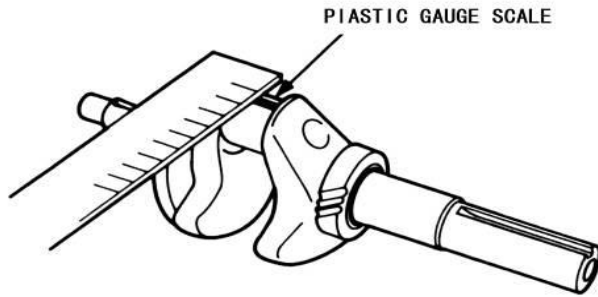

Figure 4-43: Remove Cap and Measure
3. See Figure 4-43. Remove connecting rod cap and measure the Plastigauge® to verify the oil clearance is within specification.